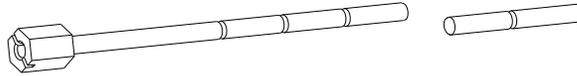

Figure 2-41 Threaded couplers: break off at joint
3. Break off any excess length from the threaded couplers (Figure 2-41) such that the remaining threads attach the sensor snugly into the fairing.